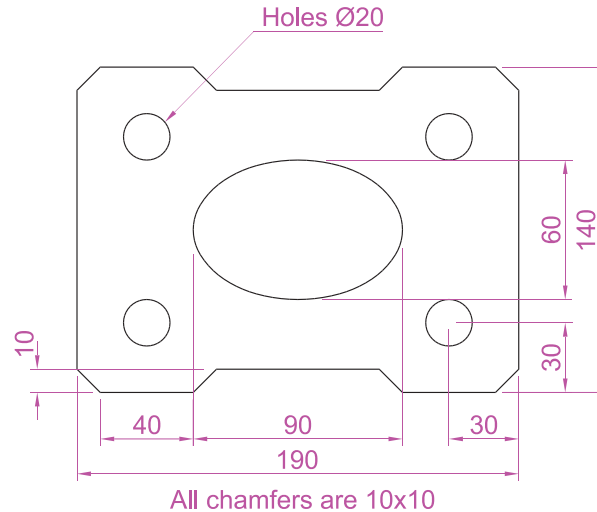

Fig. 17.19 First example – 2D outlines in 3D space
- On this **3point UCS** construct a 2D drawing of the plate to the dimensions given in Fig. 17.19, using the **Polyline**, **Ellipse** and **Circle** tools.